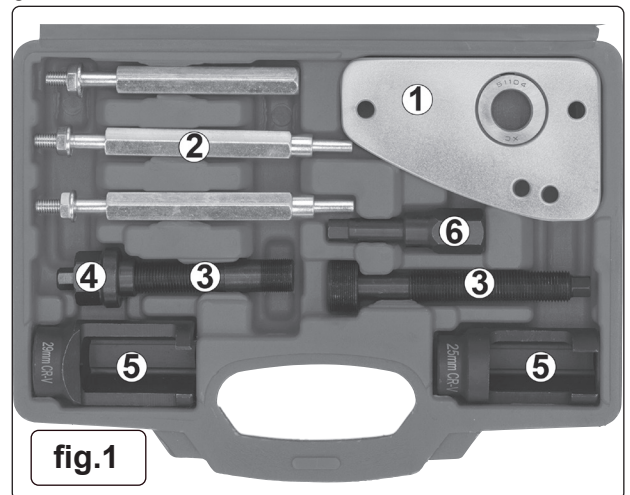
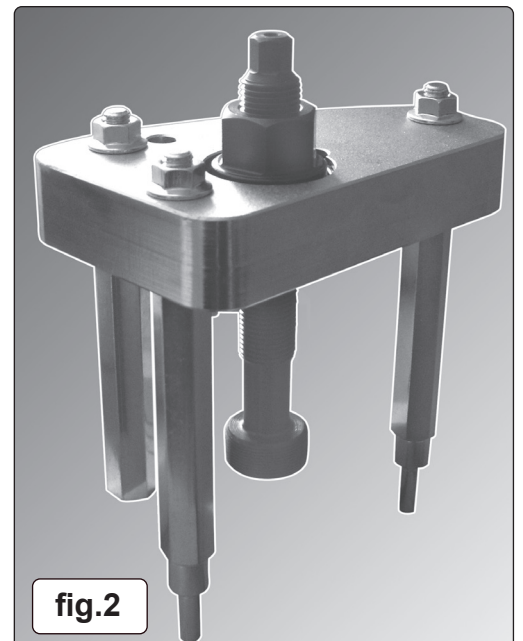

fig.1
fig.2
3. CONTENTS (fig.1)
- 4.1. Referring to the individual components in fig.1. assemble the Injector Puller minus the force screw as shown in fig.2. overleaf. A different configuration of the bridge legs may be needed depending on engine.